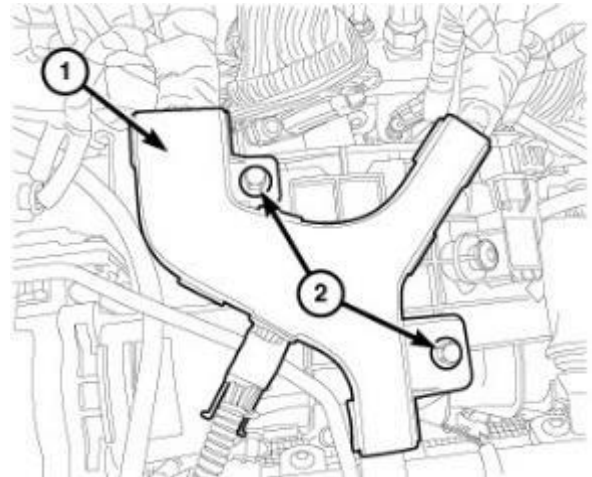

Figure 7 - Engine Wiring Harness
10. Remove the bolts (2) and pull up on the engine wire harness assembly (1) to release retainers from the intake manifold (Figure 7).